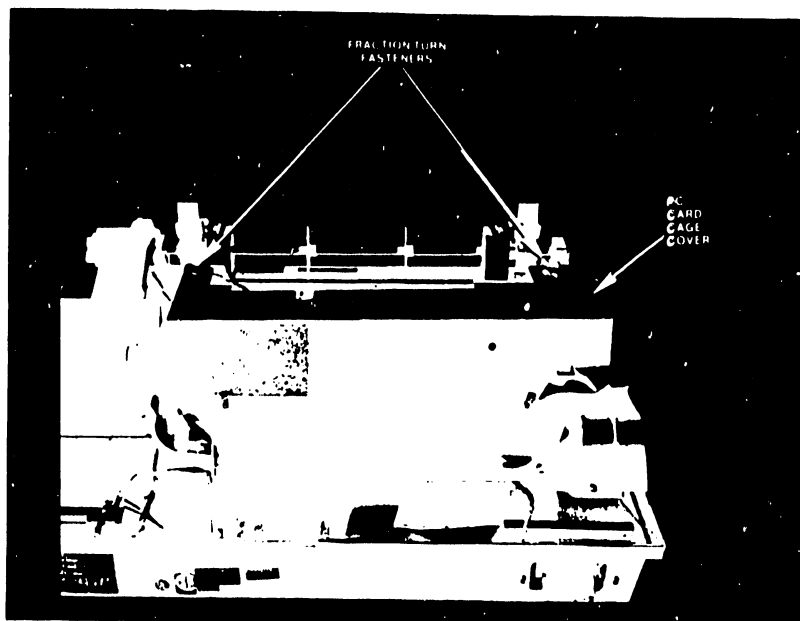

FIGURE 5
3. Remove the old style PC card cage cover by unlocking the two fraction turn fasteners on the card cage cover. (Figure 5.)